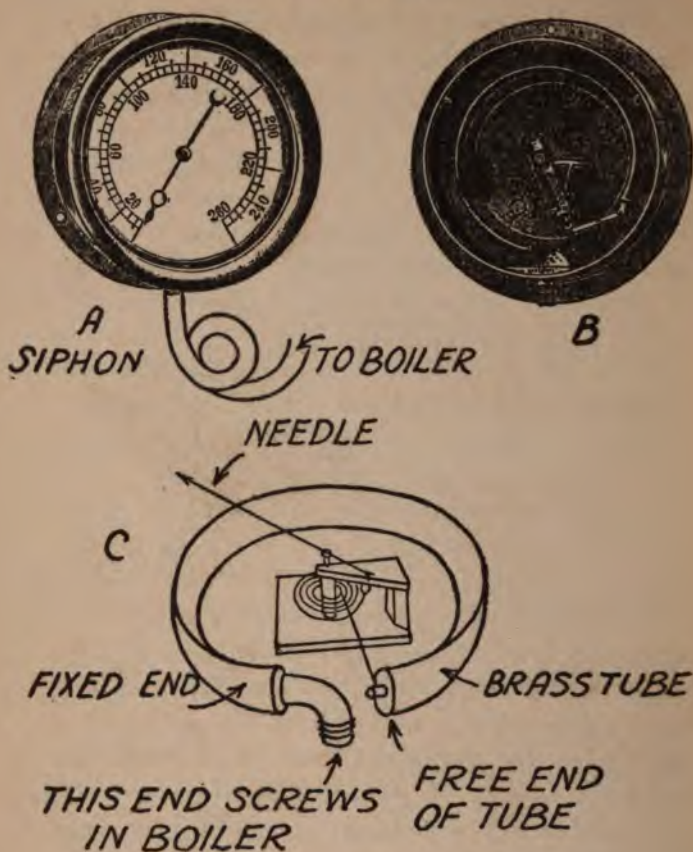

FIG. 52C.—A STEAM PRESSURE GAUGE
(6) To accurately measure the pressure of steam, a *Bourdon spring gauge*, see A, Fig. 52C, so called after its inventor, is used. It is made of a brass tube having a more or less flat cross section, which is bent into a ring, nearly, with its flat sides in and out, as shown at C.
the cock a little, but not enough to reduce the pressure on the gauge. Always buy a gauge that is graduated to double the working pressure of the boiler, as this will insure accuracy. Fig. 52C.